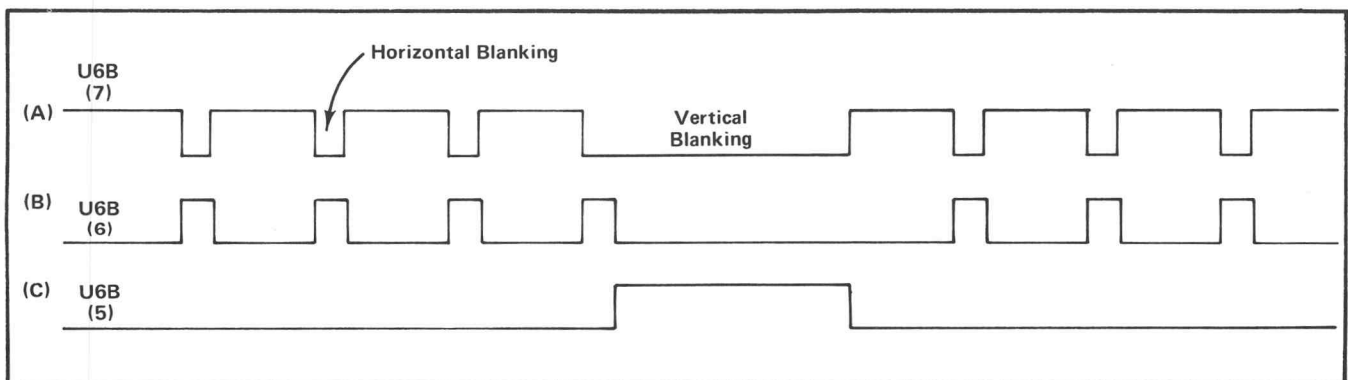

Fig. 3-12. Waveforms illustrating the inputs and output of U6B during External Signal In operation.
The composite blanking signal on pin 6 of U76E is also coupled to U145A (2), a two-input gate. The other input to U145A is from the collector of Q140. Since U145A (1) remains in the 0 state, the gate acts as an inverter to the composite blanking signal. Appearing at U145A (3) is a negative-going composite blanking signal, which is coupled to U6B (7). The other input to U6B is from a flip flop consisting of U8B and U9B. The signal on pin 6 of U76E is differentiated by C136/R136 and coupled to the input of flip flop U8B (6), and the positive-going pulses trigger the flip flop. The time duration of the multi, which is established by C138 and R138 is approximately 12 μ s. Appearing at the output of the flip flop are positive-going pulses that occur at the same time as the blanking pulses and extend for 12 μ s. The output of the flip flop is coupled to U6B (6). The inputs to U6B are the composite blanking signal at U6B (7) and the output of the flip flop at U6B (6); see Fig. 3-12 A and B. The output of the gate, U6B (5), is in the 0 state, except during vertical blanking at which time it assumes the 1 state (see Fig. 3-12 C). The output signal of U6B is inverted by U5C and coupled to U39A (12) and U43B (7). Therefore, except during vertical blanking, the $\div 2$ counter and the vertical offset pulses are inhibited. During vertical blanking these two circuits are released to trigger the multis, which develop the signal used in the Type 4501 (such as blanking ears, read amp clamp, etc.). Without this provision these signals would not be developed during vertical blanking time with external signals in.